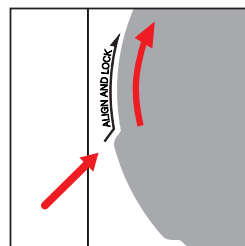

Fig. 11
6. Once both burrs are cleaned, return the grind collar to the grinder base. Align the protruding part at the bottom of the collar with the indicated position on the machine (figure 11), and turn clockwise to lock.